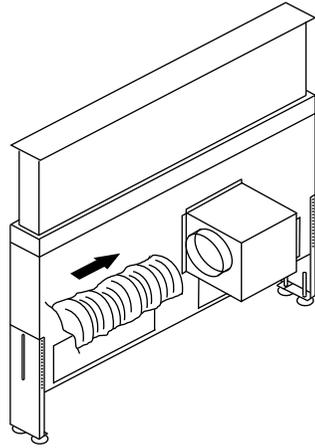

Fig 10
2. Connect the ducting to the motor (Fig 10)